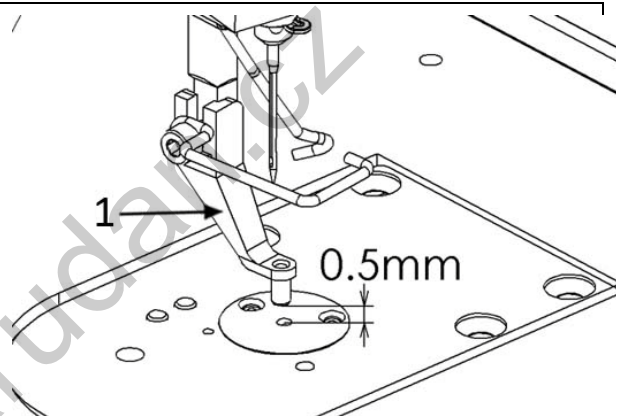

Fig. 14
- A. Loosen screw of the presser foot (1) in the lower end position and set the height of the foot so the foot tip is approximately 0.5mm above the surface of the sewn material, then tighten screw, fig. 14